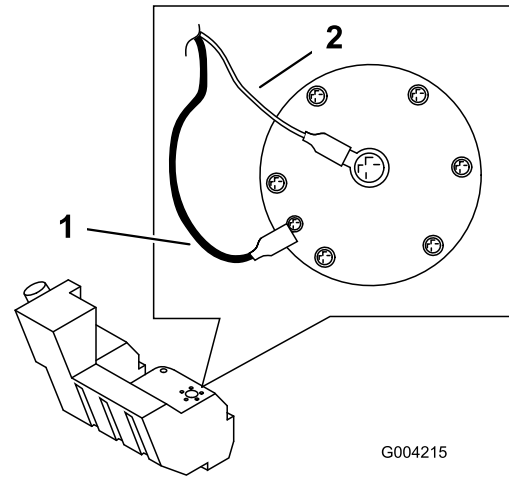

Figure 52
12. Disconnect the two wires leading to the right side of the tank (Figure 52).
19. On the right side of the tank, connect the orange wire to the center post and the black wire to the outside post (Figure 52).